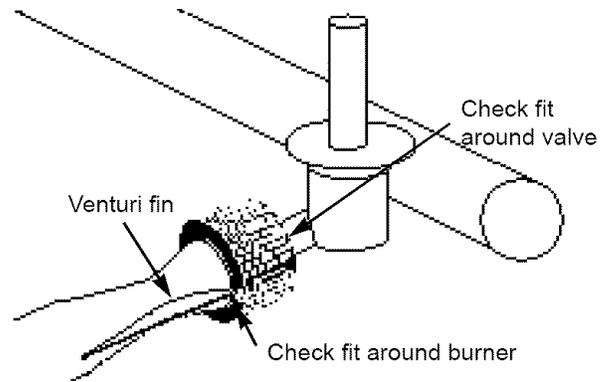

Figure 17
14. Reinstall the Spider Stopper Guards. Slightly rotate the Spider Stopper Guards so that the seams are in line with the Venturi fins. There should be no gaps in the seams or in the fit around the burners and valves. Figure 17.